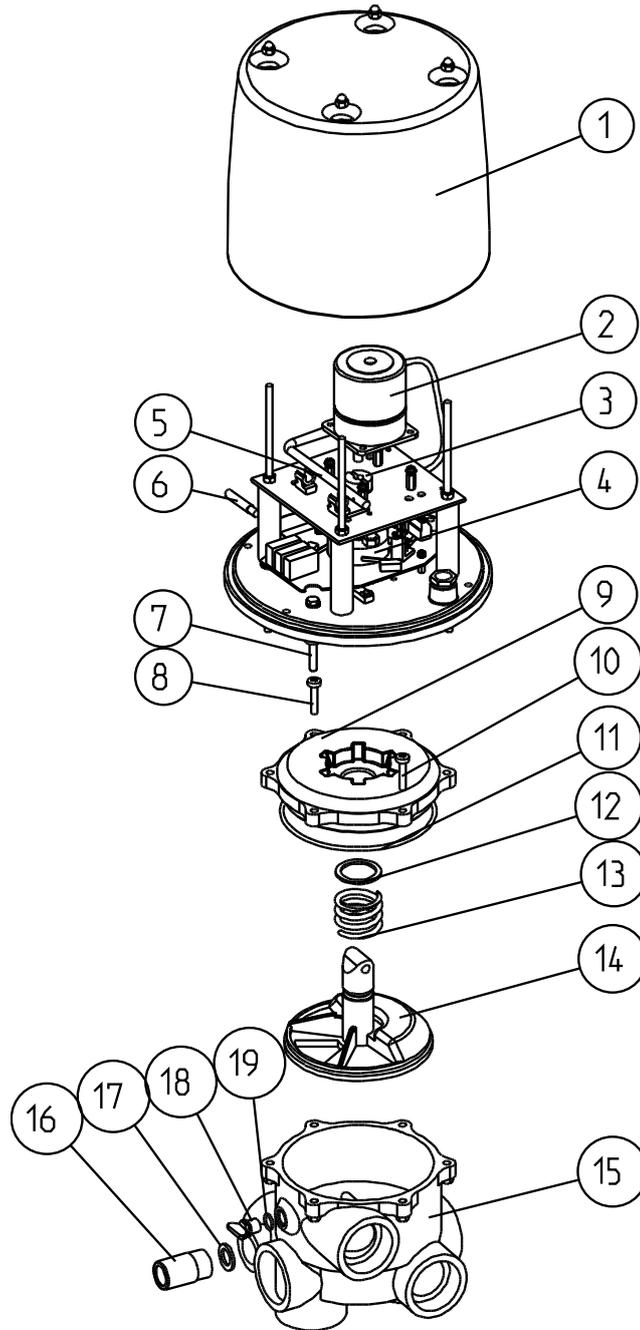

Fig. G-1: Exploded view of F 600 A automatic multi-way valve with automatic actuator
Note: All backwash times must be deactivated until the automatic actuator has been repaired (see chapter F-2.5). The position numbers (in brackets) relate to Fig. G-1.
**Note:** All backwash times must be deactivated until the automatic actuator has been repaired (see chapter F-2.5). The position numbers (in brackets) relate to Fig. G-1.
**Note:** The item numbers (in brackets) relate to Fig. G-1.